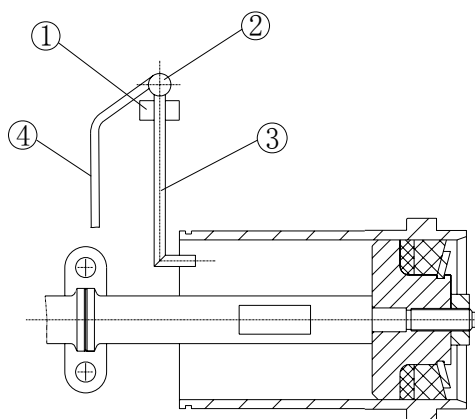

Fig. 5 Stationary spray pipes
Stationary spray pipes have been used on F-series pumps Ref. Fig 5. It consists of a fixture frame (1), steel pipe (2) and spray nozzle (3), it makes cooling fluid spray to piston and liner. Adjust cooling water supply to the manifold and inspect spray nozzle operation very often to make sure the nozzle is pointed directly at the piston.